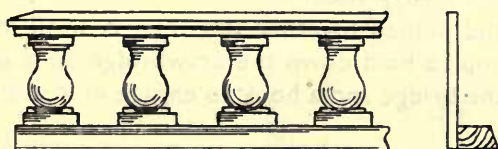

**FIG 7**
**STAIRS** (Fig. 7).—The setting out, in one piece of card, of treads and risers is shown in Fig. 7. The card is to be folded along the broken lines. In the other sketch is a suggestion for handrail, etc., and spandrel against which are glued the treads and risers.